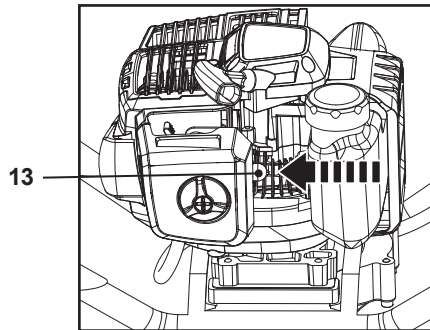

Fig. 5
Press the primer (13) 7 times when starting the product with a cold engine (Fig. 5).